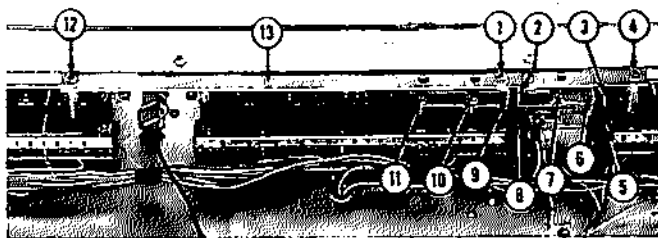
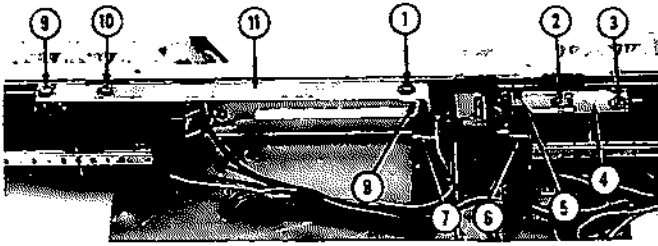
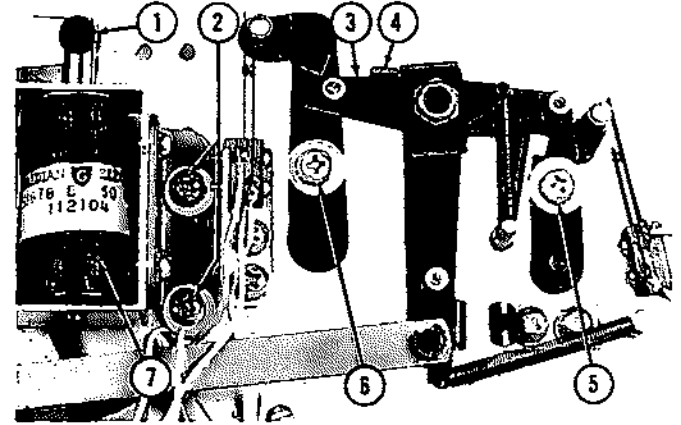
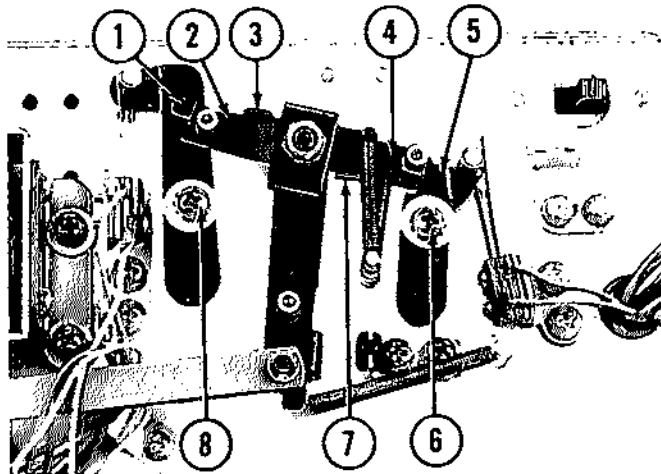

FIG. 13. CONNECTOR LINK ADJUSTMENT - 2600
FIG. 14. CONNECTOR LINK ADJUSTMENT - 2610
FIG. 15. PRELIMINARY ADJUSTMENT OF LATCH SOLENOID
FIG. 17. LATCH ADJUSTMENT
Figure 13 shows the underside of the 2600 Selector Switch Assembly. Should any adjustments be required, readjust the entire assembly through the following sequence:
(1) Loosen the Linkage Adjusting Screws (Fig. 13, Items 1, 4, 7, 10, 11 and 12) and the two Latch Lever Adjusting Screws (Fig. 15, Items 5 & 6). Check all Selector Switch Push Rods and Latch Bars for freedom of action. If any bind exists, correct before proceeding with the adjustments.
(2) Hold the Lever (Fig. 13, Item 8) in a vertical position and set the Adjusting Clip (Item 2) on the Letter Connecting Link (Item 13) to minimum clearance with the lever. Tighten the two screws (Items 4 & 12). Set the Adjusting Clip (Item 9) to minimum clearance with the Lever (Item 8) and tighten the Screw (Item 1). Check all Letter Push Rods for binds. If any bind exists it should be corrected before proceeding.
(3) Hold the Lever (Item 5) in a vertical position and set the Number Connecting Link (Item 3)
Figure 14 shows the underside of the 2610 Selector Switch Assembly. Should any adjustment be required, readjust the entire assembly through the following sequence:
(1) Loosen the Linkage Adjusting Screws (Fig. 14, Items 1, 2, 3, 9 & 10) and the two Latch Lever Adjusting Screws (Fig. 15, Items 5 & 6). Check all Selector Switch Push Rods and Latch Bars for freedom of action. If any bind exists, correct before proceeding with the other adjustments.
(2) Hold the Lever (Fig. 14, Item 7) in a vertical position and set the Connecting Link (Item 11) for the Letter Switch to minimum clearance with the Lever (Item 7) and tighten the Screws (Items 9 & 10). Set the Adjusting Clip (Item 8) to minimum clearance with the Lever (Item 7) and tighten the Screw (Item 1). Check each Letter button for binds before proceeding with the adjustments.
(3) Hold the Lever (Item 6) in a vertical position and set the Connecting Link (Item 4) for the Number Switch to minimum clearance with the Lever (Item 6) and tighten the Screw (Item 3). Set the Adjusting Clip (Item 5) to minimum clearance with the Lever (Item 6) and tighten the Screw (Item 2). Check each number button for binds. If any bind exists, correct before proceeding with the adjustment.
Loosen the Latch Solenoid Adjusting Screws (Fig. 15, Item 2). Manually hold the Solenoid Plunger (Item 1) firmly bottomed in the Solenoid and set the Solenoid to provide 3/64" maximum clearance between the tab on the Release Lever (Item 4) and the Trip Lever (Item 3). The plunger travel should not exceed 3/16 of an inch.
The Latch Adjusting Screws (Fig. 15, Items 5 & 6) were loosened to perform the Link adjustments under Sections a and b of the Selector Switch adjustments.
(1) To adjust the Letter Latch Lever, energize the Latch Solenoid (Fig. 15, Item 7) by establishing a credit on the Accumulator and manually hold a letter button fully depressed. Move the Letter Latch Pawl (Fig. 17, Item 1) to allow the Trip Lever (Item 2) to move and rest against the Stop Tab (Item 3). The Square Stud (Item 1) on the Letter Latch Pawl should rest firmly against the Trip Lever (Item 2). Maintain this setting and tighten the Screw (Item 8). Release the letter button by depressing the
(2) The Number Latch Pawl is adjusted in the same manner as the Letter Latch Pawl. With the Latch Solenoid energized, manually hold a number button fully depressed. Move the Lever (Fig. 17, Item 5) to allow the Pawl (Item 4) to rest against the Stop Tab (Item 7). The Trip Lever (Item 5) should rest firmly against the Square Stud on the Number Pawl (Item 4). Tighten the Screw (Item 6). Release the number button by depressing the Reset Button and check each number button for proper latching and selector switch contact engagement.
(1) Loosen the Latch Solenoid Adjusting Screws (Fig. 15, Item 2). Manually hold the Plunger (Item 1) firmly bottomed in the solenoid. Move the solenoid to provide 5/64" maximum clearance between the Tab (Item 4) on the Release Lever and the Letter Trip Lever (Item 3).
(2) The plunger travel should not exceed 3/16". Check the Release Lever action for mechanical bind of the plunger within the solenoid. Realign the Latch Solenoid with the plunger if necessary but maintain the adjustment as outlined above.